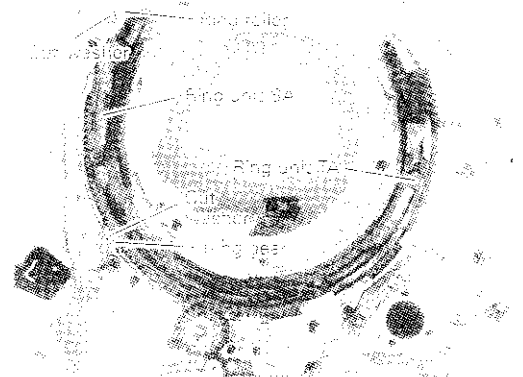

Fig. 3-21-3
- (1) Slide the ring unit TA counter-clockwise to the extent that it doesn't go off the gear LA7 (See Fig. 3-21-3).
- (2) Attach the ring unit SA, slide the ring roller to fix with the ring gear, ring gear and two cut washers.